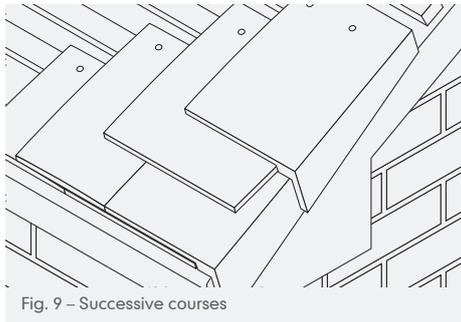

Fig. 9 – Successive courses
- 6 Build up verges with successive cloak verge and tile-and-a-half tiles until apex is reached. The top course may be either an eaves/tops tile or a cloak verge tile cut to size with nail holes drilled and twice fixed as required (Fig. 9).